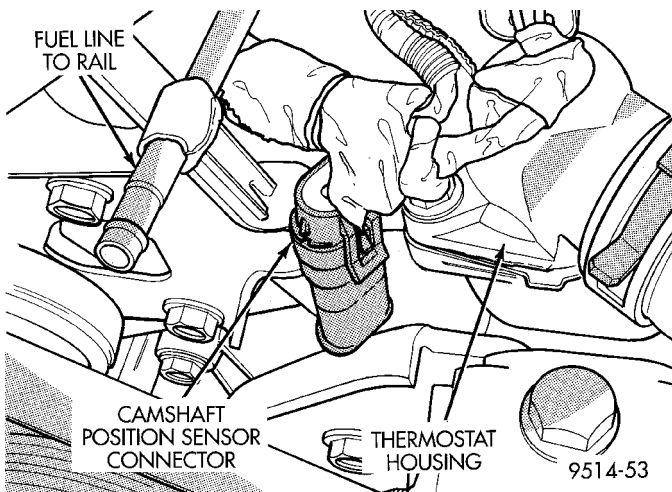

Fig. 5 Camshaft Position Sensor
- (1) Disconnect camshaft position sensor electrical connector from the wiring harness connector (Fig. 5).